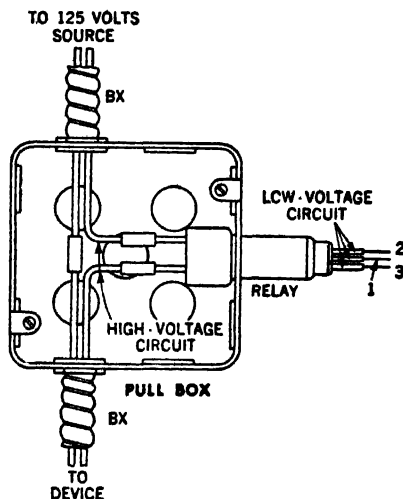

FIG. 7.—Illustrating remote-control relay mounted in outlet box.
2. When installed as indicated in fig. 7, the necessary physical separation of the power circuit and the control circuits as required by the *National Electrical Code* is automatically established with the power circuits confined in the metal enclosure of the raceway, and the control circuit isolated by being on the outside. The same result is obtained when the relays are mounted in one-half inch knockouts or holes in metal barriers in appropriate metal cabinets which have both high and low voltage requirements.